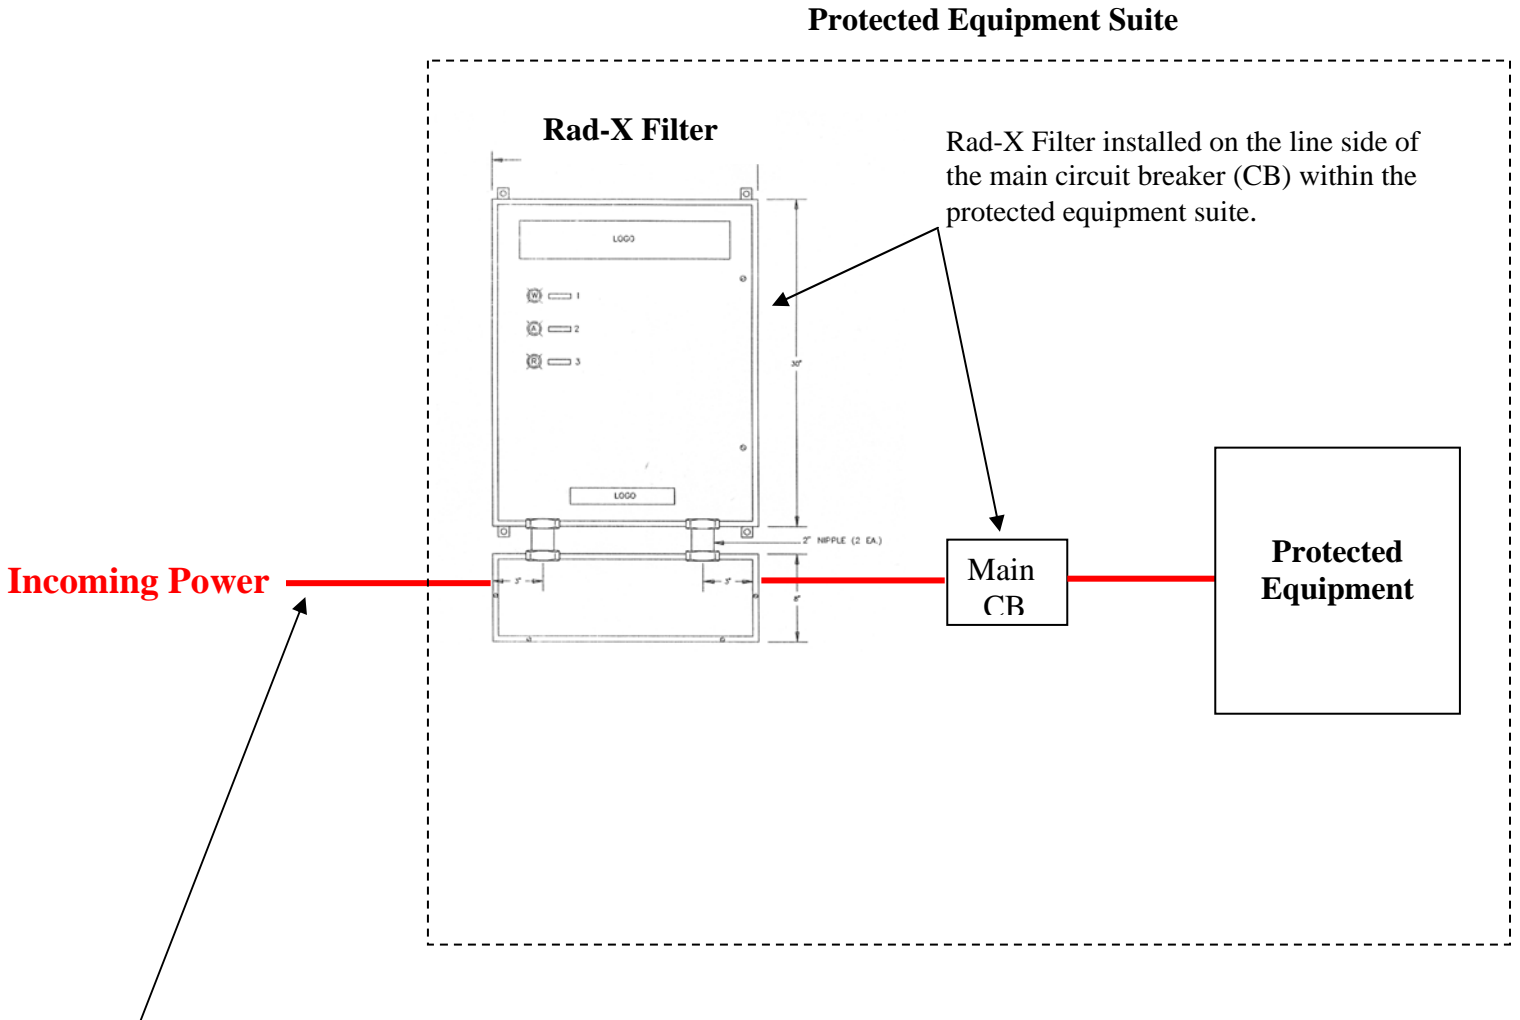

Figure 1
The Rad-X Filter is electrically installed in series with the feeder conductors that supply the protected equipment. Whenever possible, it is preferable to install the Rad-X Filter on **the line side of the main circuit breaker (CB)** that is typically located within the protected equipment suite (**Figure 1, page 4**).